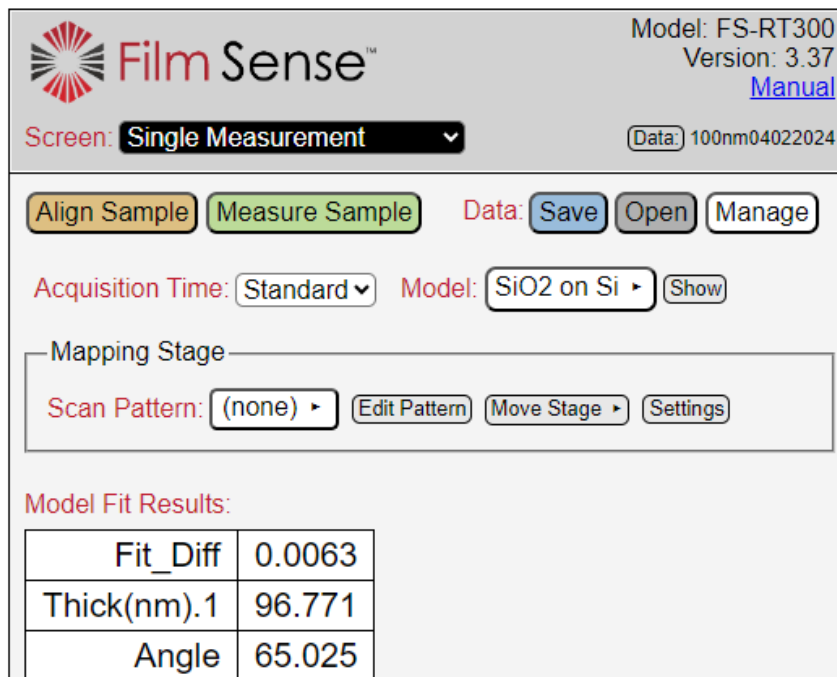

Figure 1: Main window of FilmSense software
5. The Film Sense software will be displayed (see fig.1).
14. Save your data. To save data click on the **Save** button (see fig.1). Add the filename. In **Folder** select **Folder:DataUsers**. The data is saved to a memory card in the Ellipsometer and not in the PC. To save the data on the PC (and retrieve it) click on the **Manage** button (see fig.1). A screen showing a list with available data will be shown. Select the data you want to export, and click **Download Files**. A compressed folder with the data saved to txt files will be download to the **Downloads** folder in the PC. Create a folder with your **Name** and **Last Name** in the folder **Documents/Ell2UsersData**.